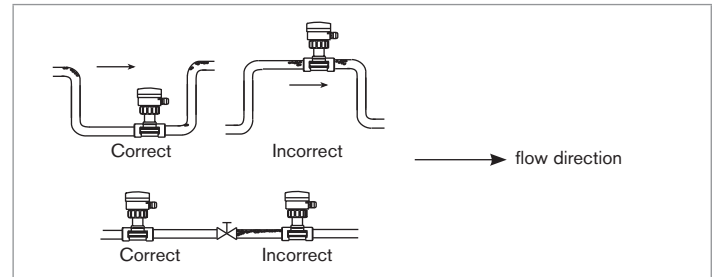

Fig. 7 : Air bubbles within the pipe
- Prevent the formation of air bubbles in the pipe in the section around the device (see Fig. 7).